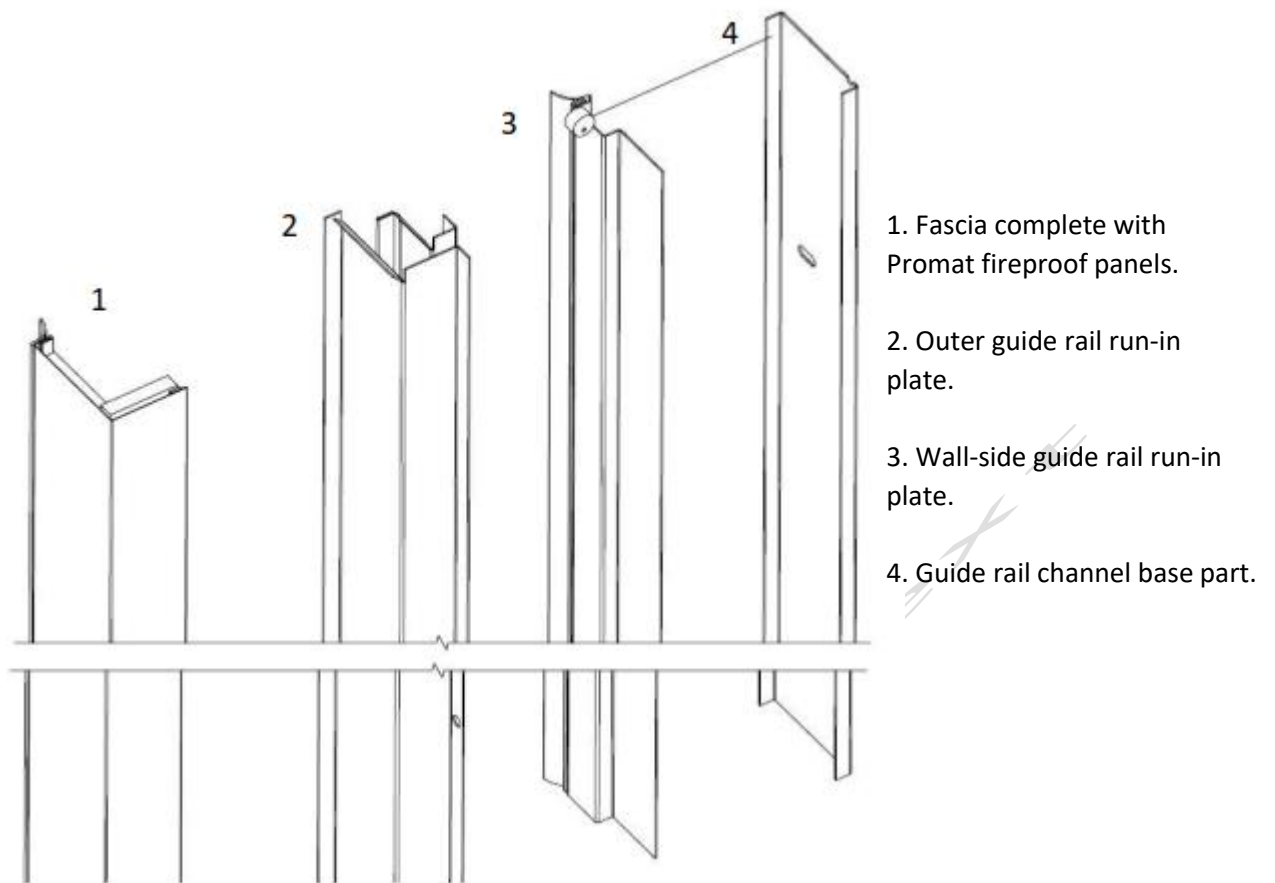
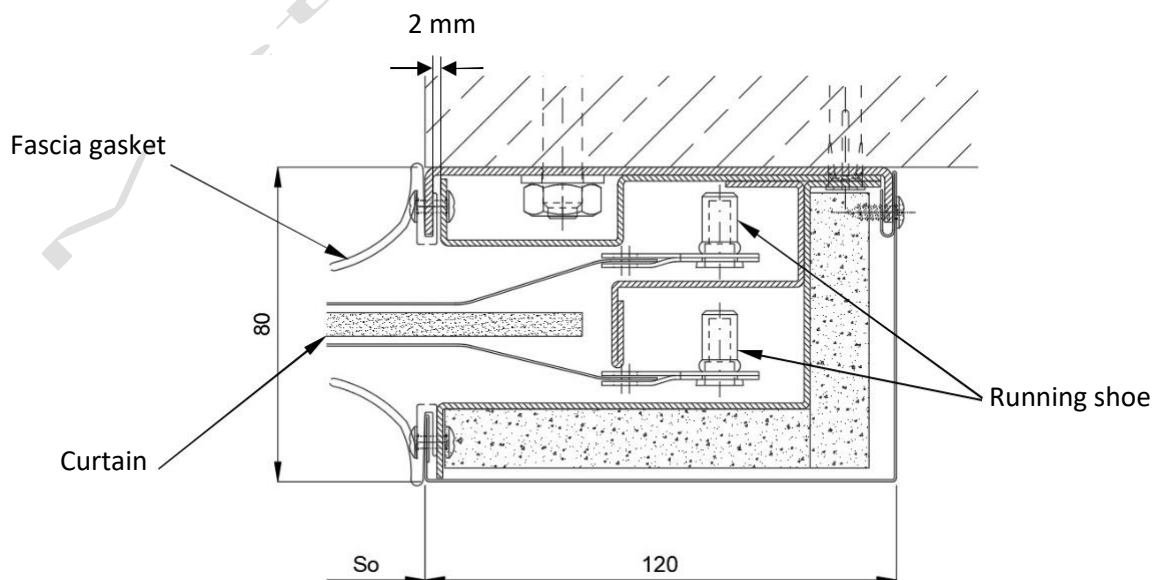

Fig. 12. Installation of the guide rail.
Fig. 13. Cross-sectional view of the guide rail engaged by the curtain
- Assemble the internal parts (2) and (3) of the guide rail (Fig. 13) in the channel bar (4) and secure them with the door frame anchors. Leave 2 mm of play for the fascia gaskets (Fig. 12).
- With the guide rail internal parts installed, install the Promat fire-proof panels and the outer fascia (1) (Fig. 13) with the 4.2x13 mm self-drilling screws.
- Insert the curtain into the recesses in the guide rails so that the running shoes are in separate channels Fig.13.